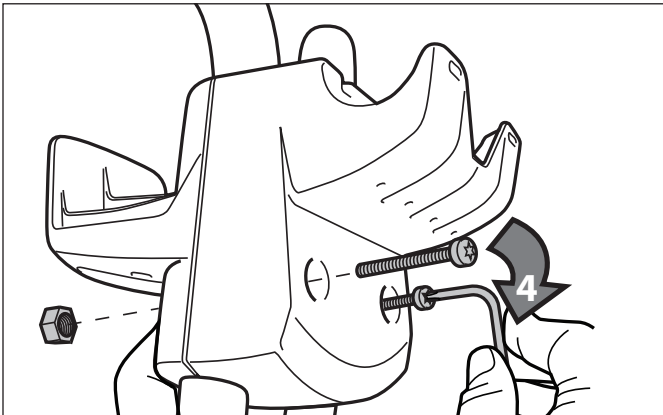

Figure 4. Secure the Hooks
- Secure the control unit hook using two (2) bolts and two (2) nuts and tighten with Torx wrench. Refer to Figure 4.